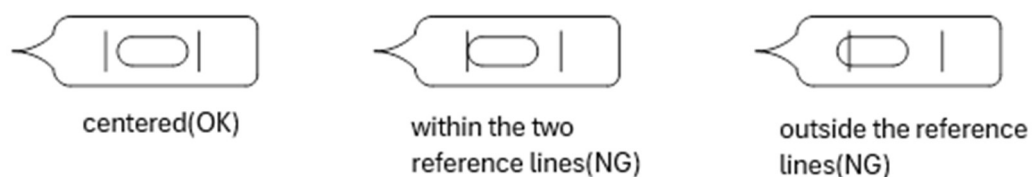

Figure 5. Bubble position in the auxiliary vial
- ① The auxiliary vial is used to check the inclination perpendicular to the measuring direction of the inclinometer level. Place the instrument so that the bubble of the auxiliary vial is centered on the reference line (see Fig. 5).